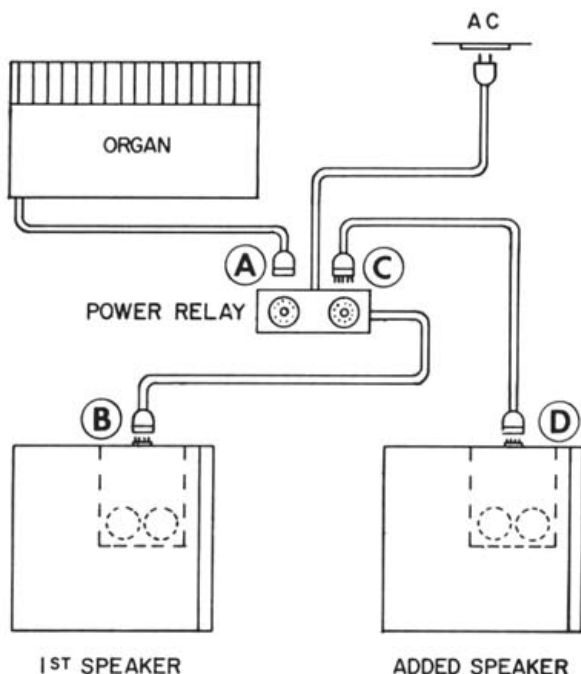

Figure 3. Multiple Speaker Installation
3. Attach this end of the interconnecting cable to the power relay (A, figure 3). Other end is in the organ.
4. Attach the socket end of the relay cable to the original speaker. (B)
5. Plug the connecting cable (part number 021600 or kit 7600) for the added speaker into the power relay socket. (C)
6. Attach the other end of this connecting cable to the added speaker. (D)